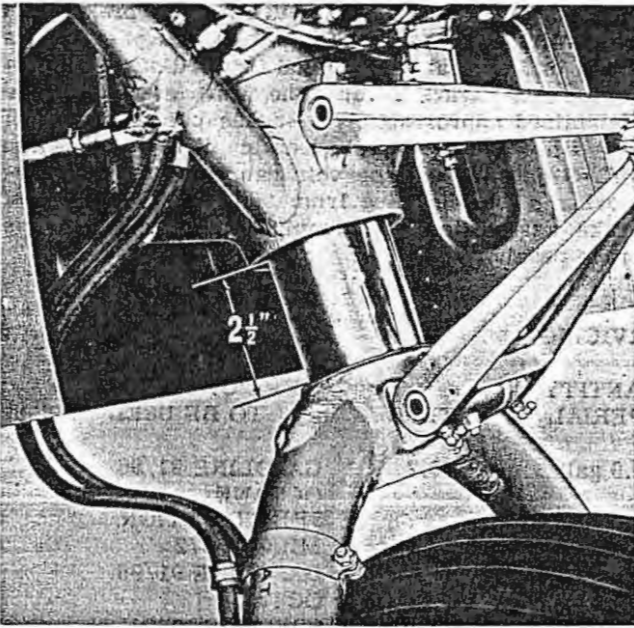

Figure 1-17. Main Gear Shock Strut Inflation
- f. Compress strut and remove filler plug, check fluid level, replace filler plug, and tighten securely. Inflate strut until 2-1/2 inches of the piston is exposed with the airplane on the ground (figure 1-17).